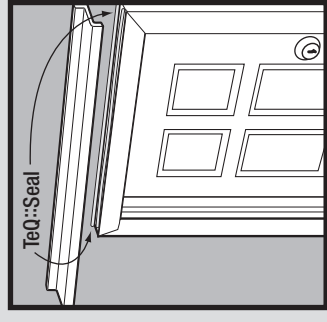

FIGURE 16
- 10.2.1 Insert upturned leg of drip cap under exterior cladding and over brick mold, embedding into sealant. (figure 16)